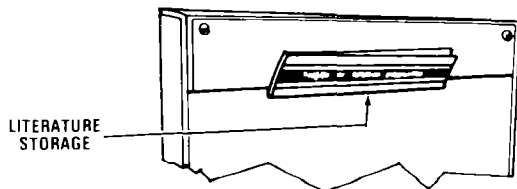

FIGURE 7
5. Remove any materials that are shipped in the drawer. Some models have a literature storage compartment located inside the front panel. See Figure 7. **DO NOT REMOVE THE BAG.**